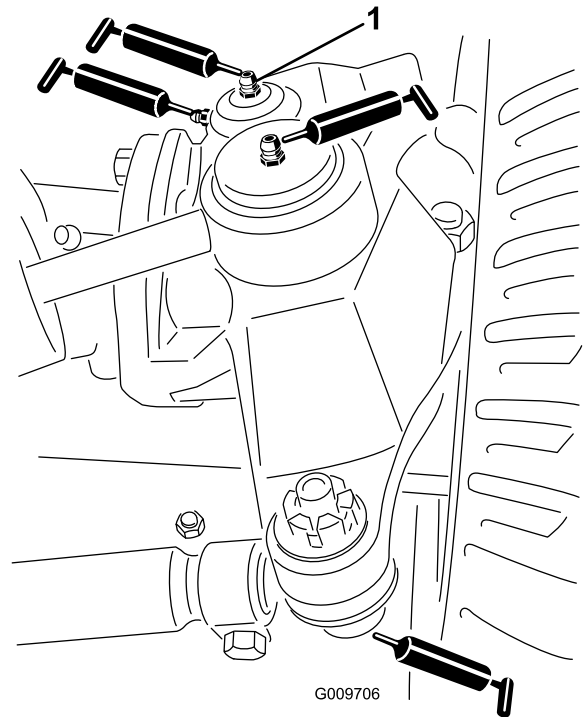

Figure 114
- Steering cylinder ball joints (2), refer to Figure 114
- Tie rod ball joints (2), refer to Figure 114
- King pin bushings (2), refer to Figure 114.